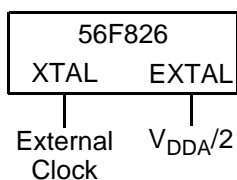

Figure 13. Connecting an External Clock Signal
The recommended method of connecting an external clock is given in Figure 13. The external clock source is connected to XTAL and the EXTAL pin is held $V_{DDA}/2$.
1. See Figure 13 for details on using the recommended connection of an external clock driver.